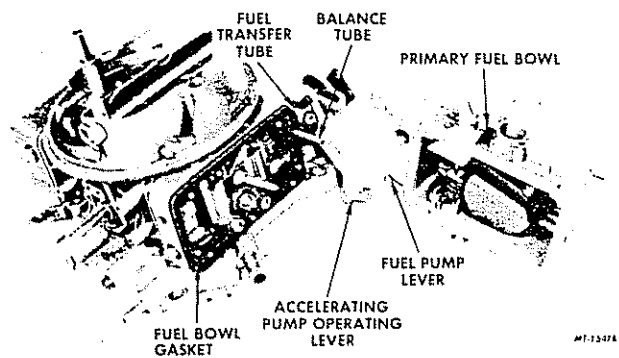

FIG. 26 — REMOVING OR INSTALLING PRIMARY FUEL BOWL
4. Remove four fuel bowl screws and primary fuel bowl assembly by sliding straight off transfer tube (Fig. 26).